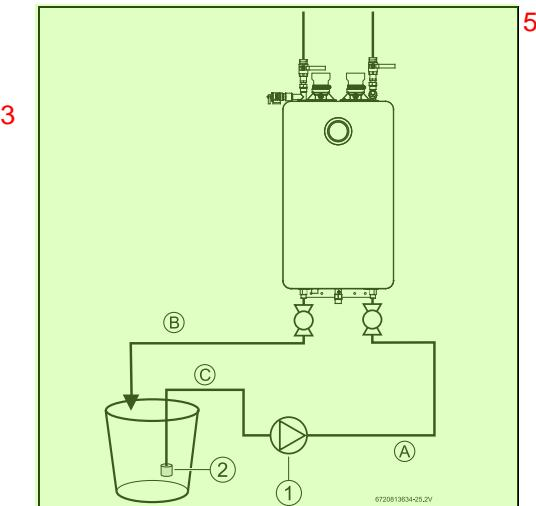

Fig. 55 6
- Connect a line (A) from the outlet of the circulating pump (installer supplied) to the inlet drain connection on the water heater (see fig. 55.)
- Using another line (B), connect the outlet drain connection on the water heater. Route the other end of this line into a descaling reservoir.
- Using a 3rd line (C) from the descaling reservoir, connect to the inlet side of circulating pump. Install a filter on the end of the line in the descaling reservoir.